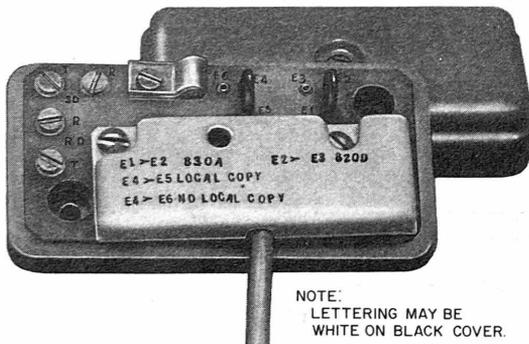

Fig. 11—DAS 830C-L1A Terminal Board
2.16 DAS 830C-L1A (Fig. 11) provides the options shown in Table C.